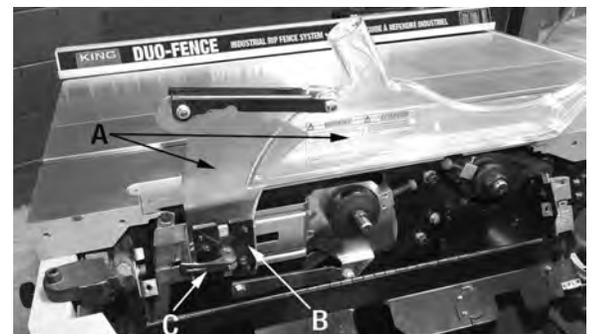

FIGURE 18
1. The blade guard with riving knife (A) Fig.18 gets installed in between the riving knife fixing plates (B) and is secured in place with the lock handle (C).